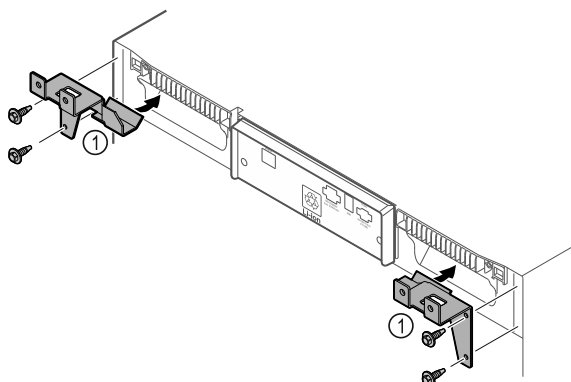

Fig. 10
- Fit the retaining parts Fig. 10 (1) to the device with self-tapping screws.